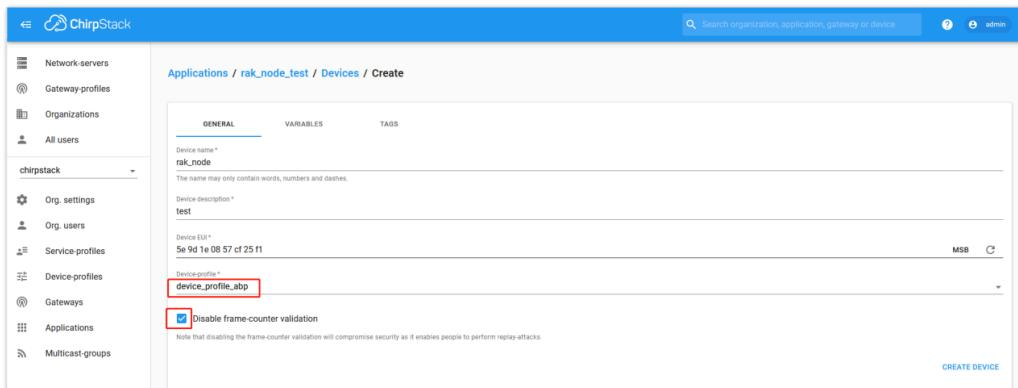

Figure 214: ChirpStack console, Configuring a device
- During the registration of a new device, if you select **DeviceProfile_ABP**, as shown in **Figure 214**, then the ChirpStack platform will assume that this device will join the LoRaWAN network using the ABP mode.